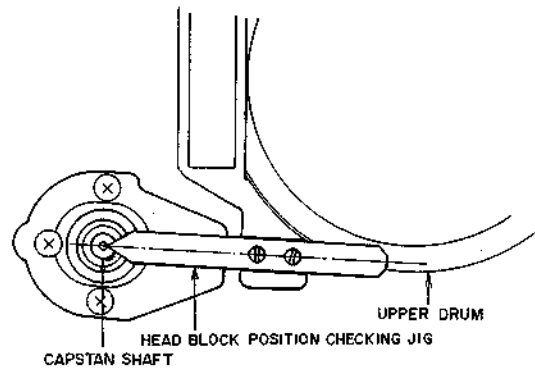

Fig. 4-15
- 6) Shift the head block by hand until the end of the head block position checking jig is aligned with the center of the capstan shaft as shown in Fig. 4-15.
- 9) Install the head block and ascertain that positioning is correct as shown in Fig. 4-15.